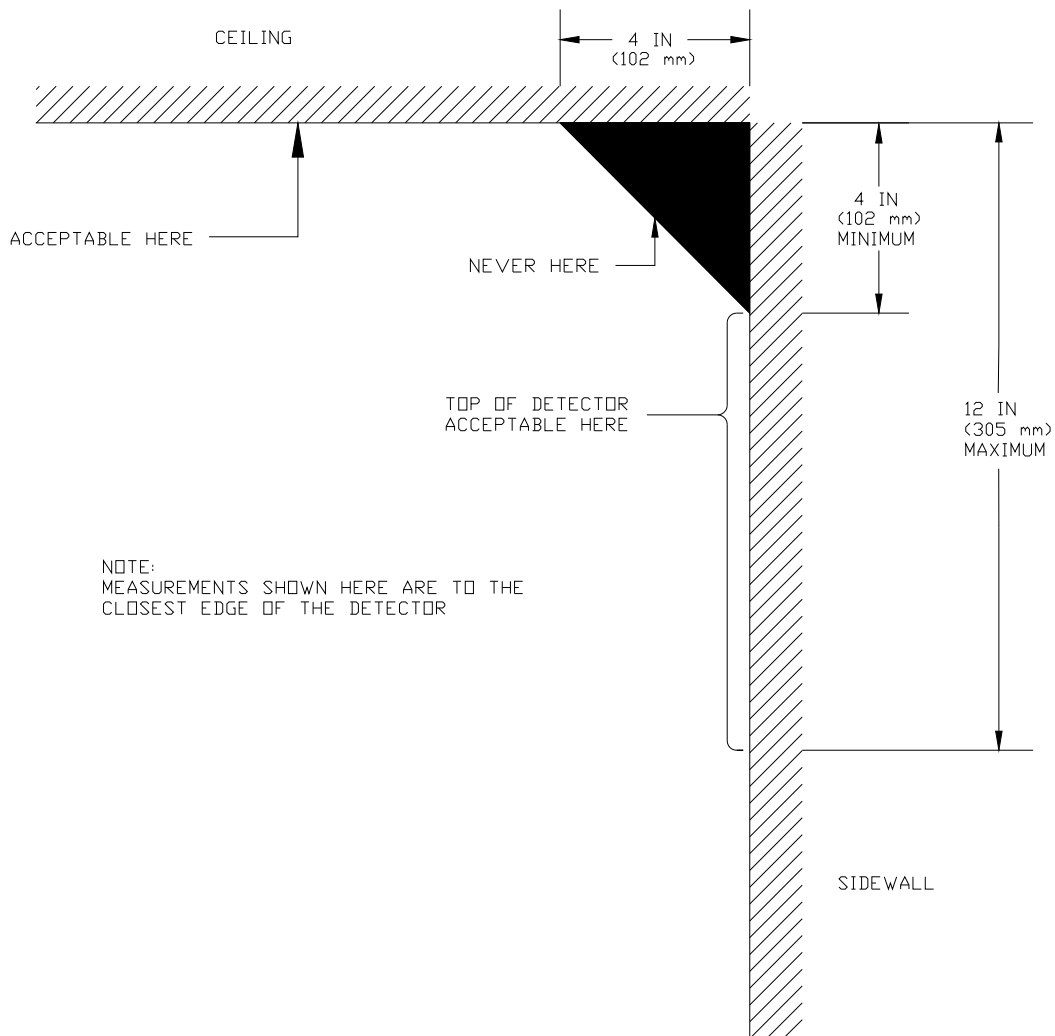

Figure 5
4.7.1 All detectors, including fusible links, shall be placed as shown in Figure 5, but in no event shall detectors be placed in the dead air space area shown in Figure 5.
3. Locate the second fusible link within 12 inches of the ceiling on the door side of the wall. Do not install a link or detector within four inches of the intersection of the wall and the ceiling. (See *Figure 5*)
4. Locate the third fusible link on the opposite side of the wall at a distance from the wall that will allow sufficient travel of the sash chain or cable to completely release the fire door. Attach the fusible link near the ceiling straight out from the through wall hole. The fusible link must be more than four inches from the intersection of the wall and ceiling. See "through-wall conduit installation information" on page 4. (Also see *Fig. 5*)